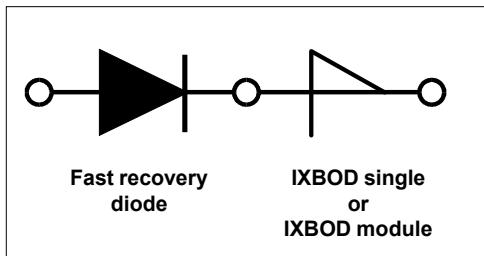
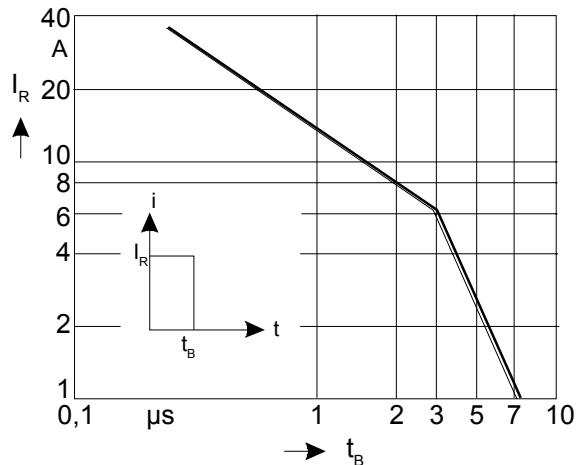

Fig. 9 IXBOD protection by a fast recovery diode.
Fig. 10 Maximum peak value of the reverse current admissible for a given pulse-width t_B, which is required for the suitable fast recovery series-diode.
2. For higher reverse voltages a fast, soft recovery diode must be connected in series (Fig. 9). This diode must fulfill the conditions of Fig. 10.